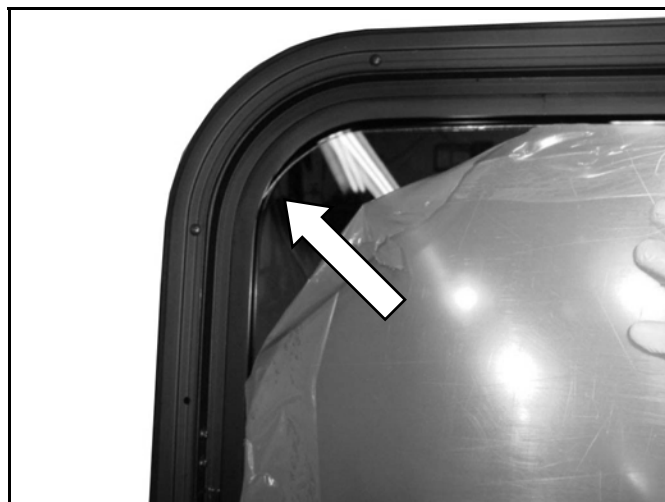

FIGURE 3-4. INSTALL UPPER CORNERS
- 5) Refer to **Figures 3-4** and **3-5**. Insert window liner into both upper corners and sides.